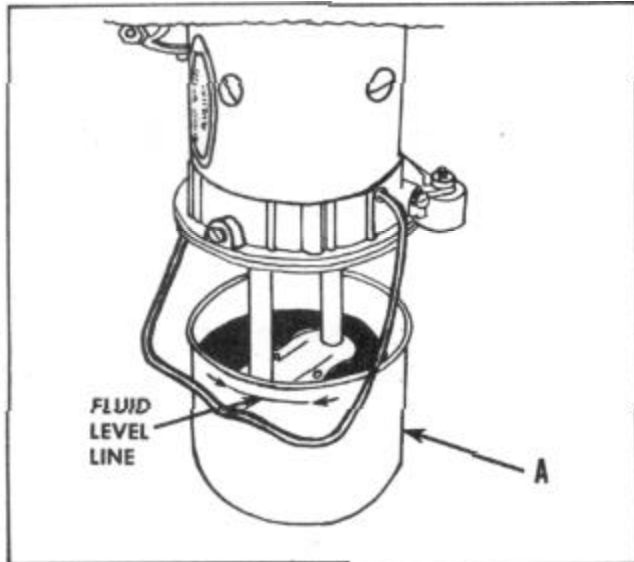

FIGURE 152
1. With the car raised on a hoist, remove the reservoir (A), Figure 152, and fill to the fluid level line with hydraulic fluid.
To prime the pump, disconnect the fluid return line at the front of the pump. Fold thumb tightly over return port in pump and run pump a few seconds until fluid is expelled from the pressure line. Reconnect lines and check the fluid level in the reservoir, Figure 152.